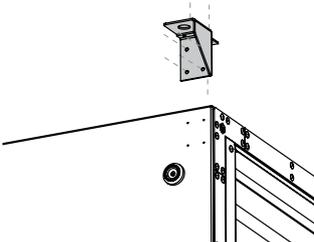

Fig. 4:
- No holes should be made in the housing, or any screws screwed into it. Excluded are the mounting screws for the supplied angle bracket (Fig. 4).